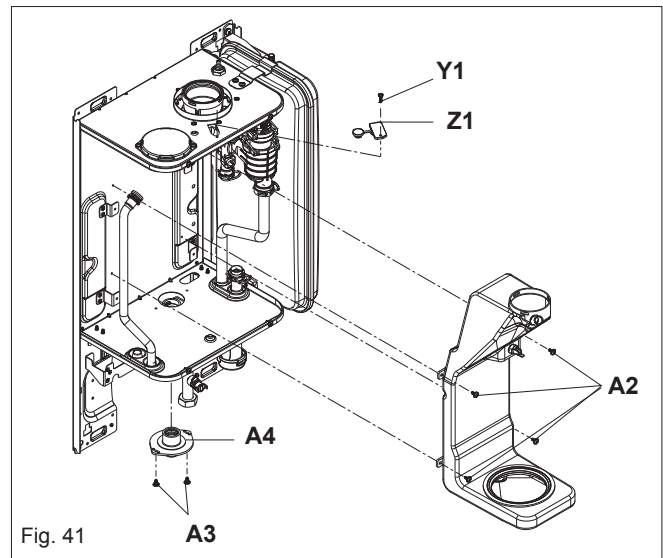

Fig. 41
6.20 FLUE COLLECTOR REMOVAL (fig. 41)
Set the flue gas analyser to read CO₂ and insert the probe into the flue analysis test point (Y1-Z1 fig. 41).
- Insert the flue gas analyser probe into the flue gas test point (see fig. 41).